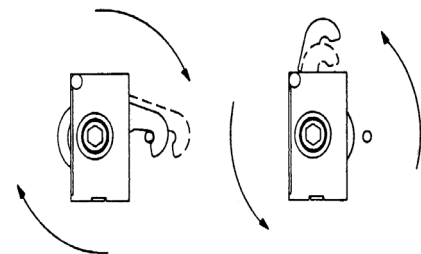

Figure 1 - Camlock Operation
1. Before beginning the installation of a walk-in, it is essential to be familiar with the operation of the THERMO-KOOL camlock (Refer to Figure 1). The operation of the camlock is achieved by the use of a 5/16" hexagon wrench supplied with each walk-in. Insert the wrench into the access hole in the panel and rotate the camlock by turning the wrench in a clockwise direction. Turn the wrench counter clockwise to retract the camlock into its housing.